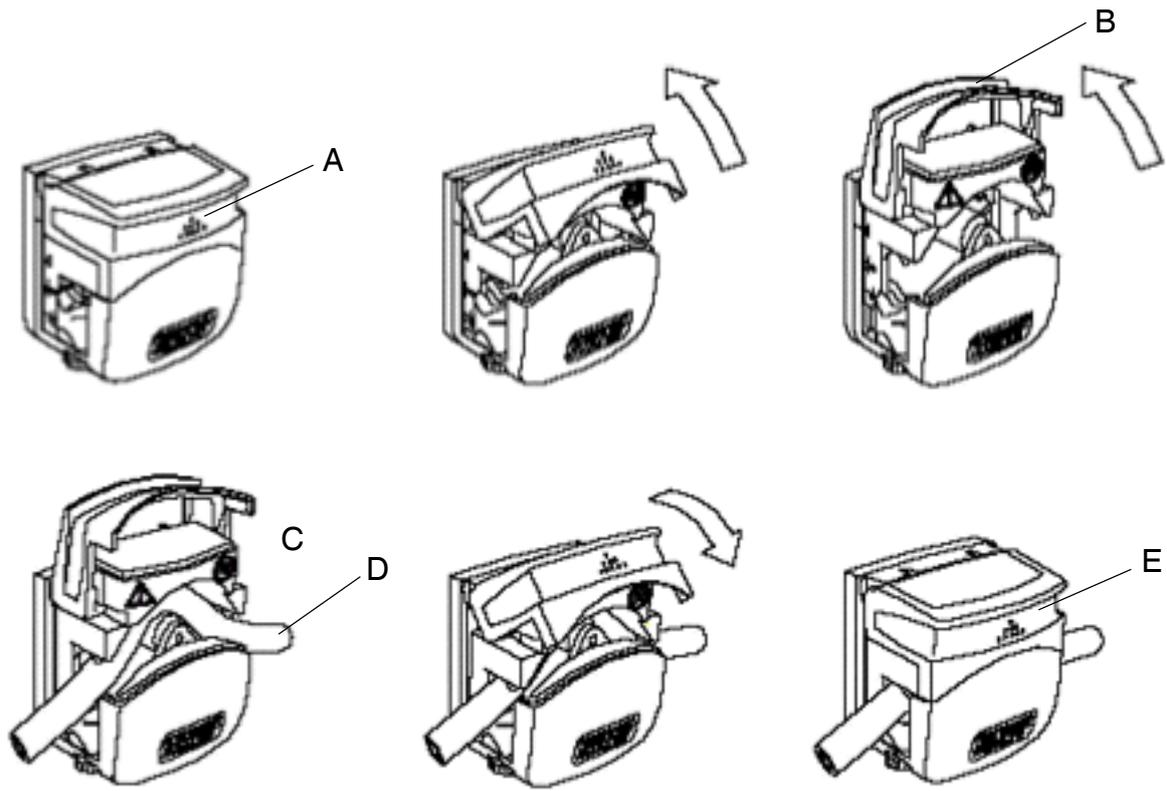

Fig. 4
The footswitch of the Piezosurgery must not be activated with the door of the peristaltic pump open (Fig.4 - Ref.B). Moving parts could injure the operator.
The footswitch of the Piezosurgery must not be activated when the door of the peristaltic pump is open (Fig.4 - Ref.B). Moving parts could cause personal injury of the operator.
- Open the door (Fig.4 - Ref.A) as far as it will go (Fig.4 - Ref.B).
- Position the tube in the impeller (Fig.4 - Ref.C).
- Close the door completely (Fig.4 - Ref.E).
The footswitch of the Piezosurgery must not be activated when the door of the peristaltic pump is open (Fig.4 - Ref.B). Moving parts could cause personal injury of the operator